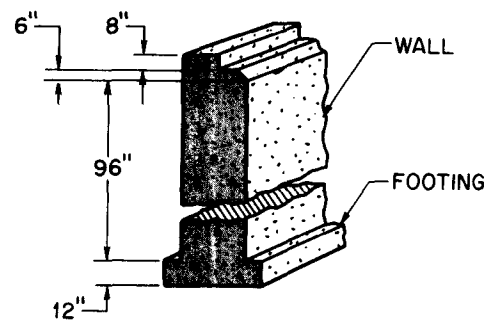

Fig. 1-1
1. A section of concrete wall and footing is shown in figure 1-1.